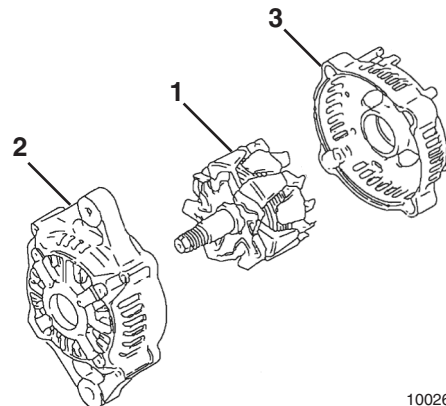

Figure 12-9
- Using a press, remove the rotor assembly (**Figure 12-9, (1)**) from the front frame housing (**Figure 12-9, (2)**) and rear frame housing (**Figure 12-9, (3)**).